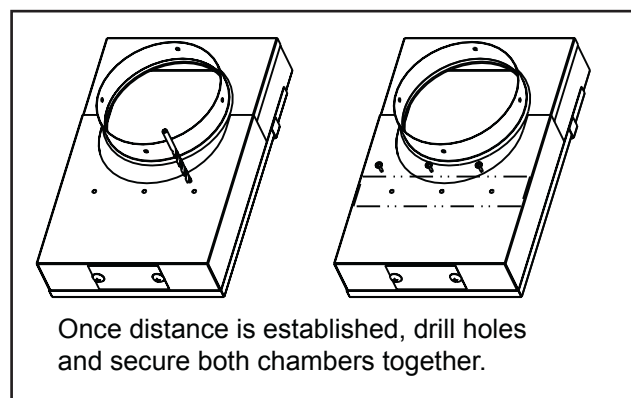

Figure 19.4
3. Adjust the offset adapter to desired distance. Drill holes through the lower chamber as shown in **Figure 19.4** using the small drill bit #26 provided.